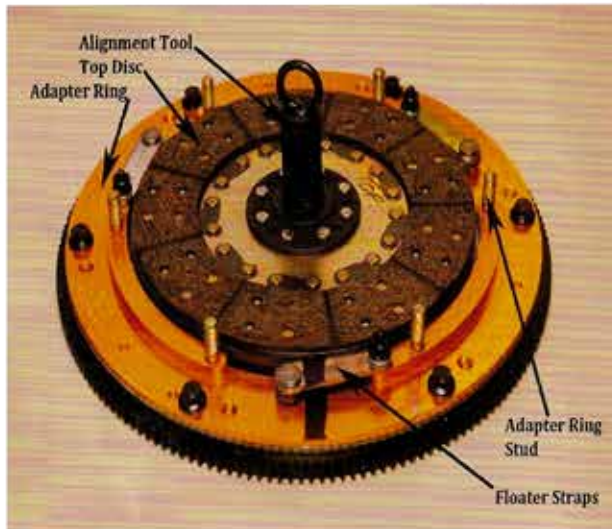

Figure 5
- 6) 4.6L and 5.4L Ford Modular engines require the installation of the supplied dowel pins (3) into the factory flywheel. GM LS engines require the installation of 2 of the supplied dowel pins into the factory flywheel. Place adapter ring on flywheel, with the floater attached, using OEM pressure plate bolts. **(Some kits are supplied with new bolts for attaching adapter ring. In these cases use these bolts as they provide necessary clearance.) (Do not use Loctite!) Do not add any washers to any locations if they were not present with the McLeod clutch assembly!** Torque these bolts to factory specs. Note: If the floater was removed from the adapter ring re-torque all 5/16" nuts to 25 ft/lbs.
- 8) Install the top disc using the alignment tool and be certain it fully engages the pilot bearing to correctly center the discs. Figure 5